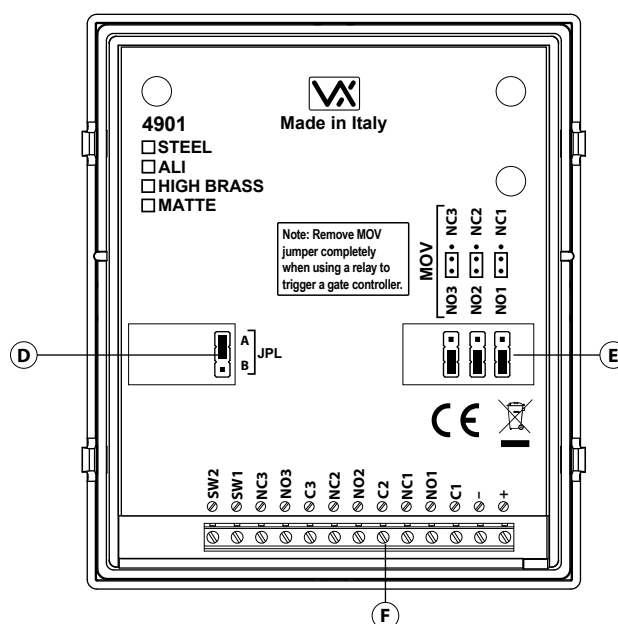

Fig. 2 Back
The jumper JPL (**Fig. 2, ⑤**) is used to adjust the brightness and determine the operation of the backlit buttons. There are four brightness settings for the backlit buttons and two programming modes (mode 1 and 2) for the jumper.